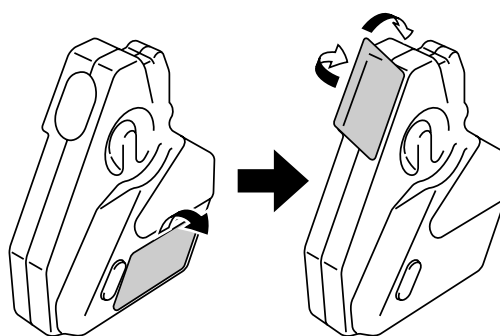

Fig. 5-12
3. Peel off the sealing sticker on the left side of the Waste Toner Pack. Seal the opening with the sealing sticker. See Fig. 5-12 for the correct placement of the sticker. When you dispose of the used Waste Toner Pack, place it in the plastic bag included with the replacement Waste Toner Pack. Please dispose of the Waste Toner Pack in accordance with local regulations.